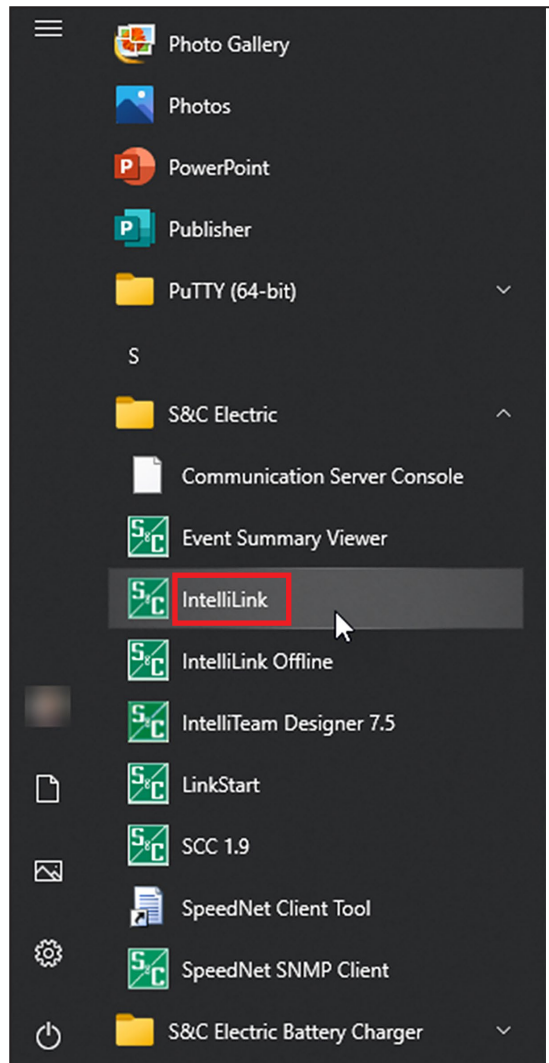

Figure 12. The Windows Start menu.
STEP 1. Click on the Windows **Start** button and click on the **All Programs** menu item. Open the S&C Electric folder and click on the **IntelliLink** icon. See Figure 12.